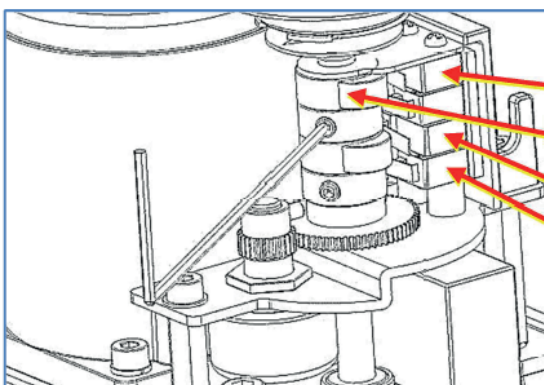

Figure 2: Open Cam Setting
- 4.3.7. Rotate the OPEN cam towards CCW limit switch lever until the switch 'clicks' (Figure 2 below).